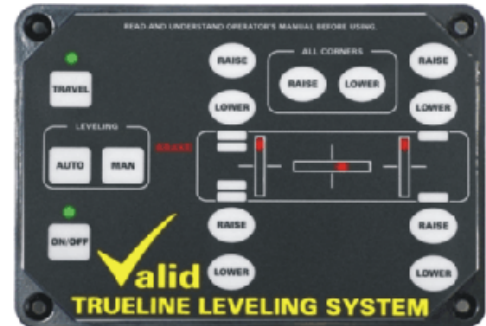

Fig 2
**Note:** If the level controller will not go into Auto mode it is most likely because the vehicle's parking brake has not been applied (Fig 2). Apply the parking brake to have the system go into Auto mode.